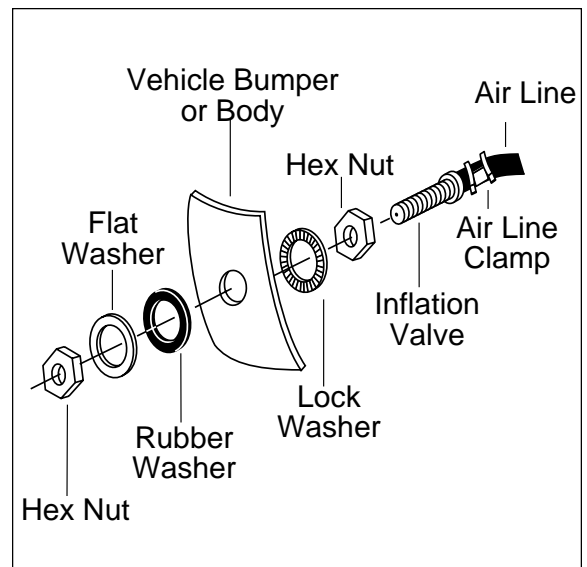

Figure 6
- l. Drill a $\frac{5}{16}$ " hole for inflation valve and mount as in illustration (Figure 6). Rubber washer is for outside weather seal.
- h. Drill $\frac{5}{16}$ " hole for inflating valves and mount as illustrated. Rubber washer is for outside weather seal (Figure 6).